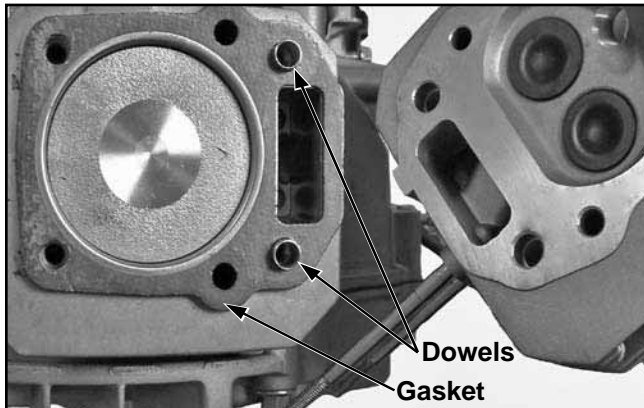

Figure 8-41. Cylinder Head Dowels.
2. Remove the cylinder head, noting the positioning of the dowels. See Figure 8-41.